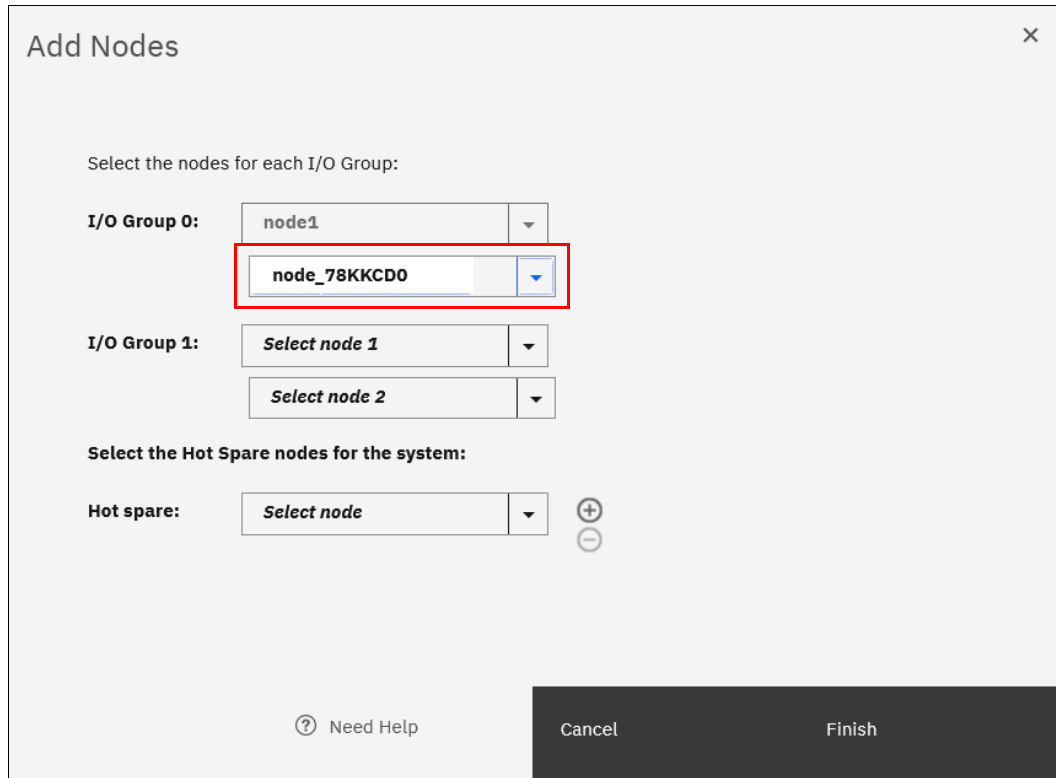

Figure 2-51 Adding a node
2. Click **Add Node**. A form that you can use to assign nodes to I/O groups opens, as shown in Figure 2-51. To light the Identify light-emitting diode (LED) on a node, click the LED icon that is next to a node name. When the required node (or nodes) is selected, click **Finish**.